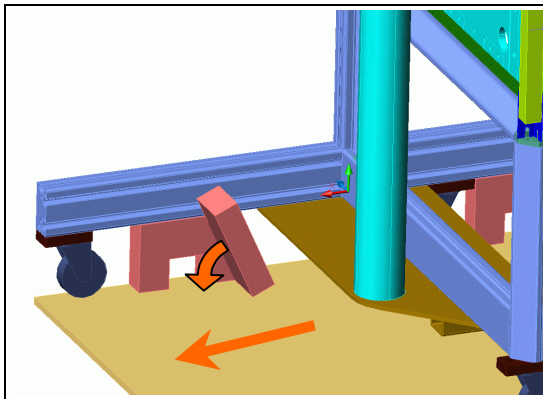

Figure 3:
- the remaining screws are inserted from the bottom – therefore knock the block in direction of the red arrow (north direction – see fig. 3)